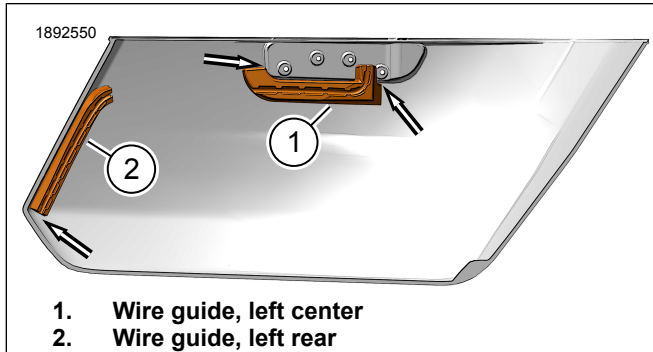

Figure 5. Wire Guide Placement
- a. See Figure 5. Install left center wire guide (1) onto saddlebag bottom aligning with features near hinge mount.
- b. Install left rear wire guide (2) onto saddlebag bottom outer wall, just forward of the rear wall as shown.